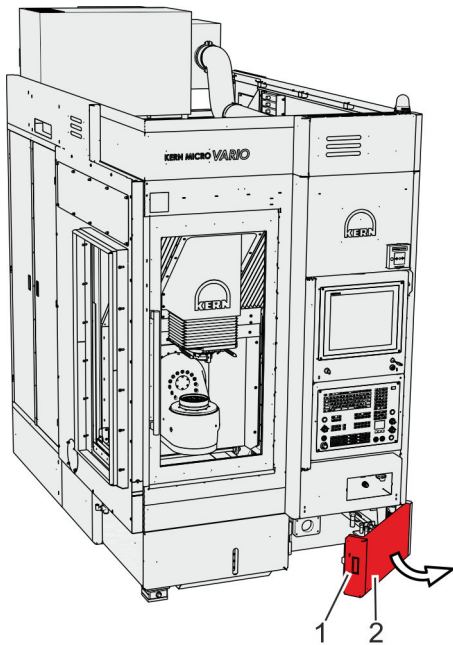

Fig. 82: Opening the flap (right)
6. ➤ Pull open the right flap (Fig. 82/2) using the handle (Fig. 82/1).